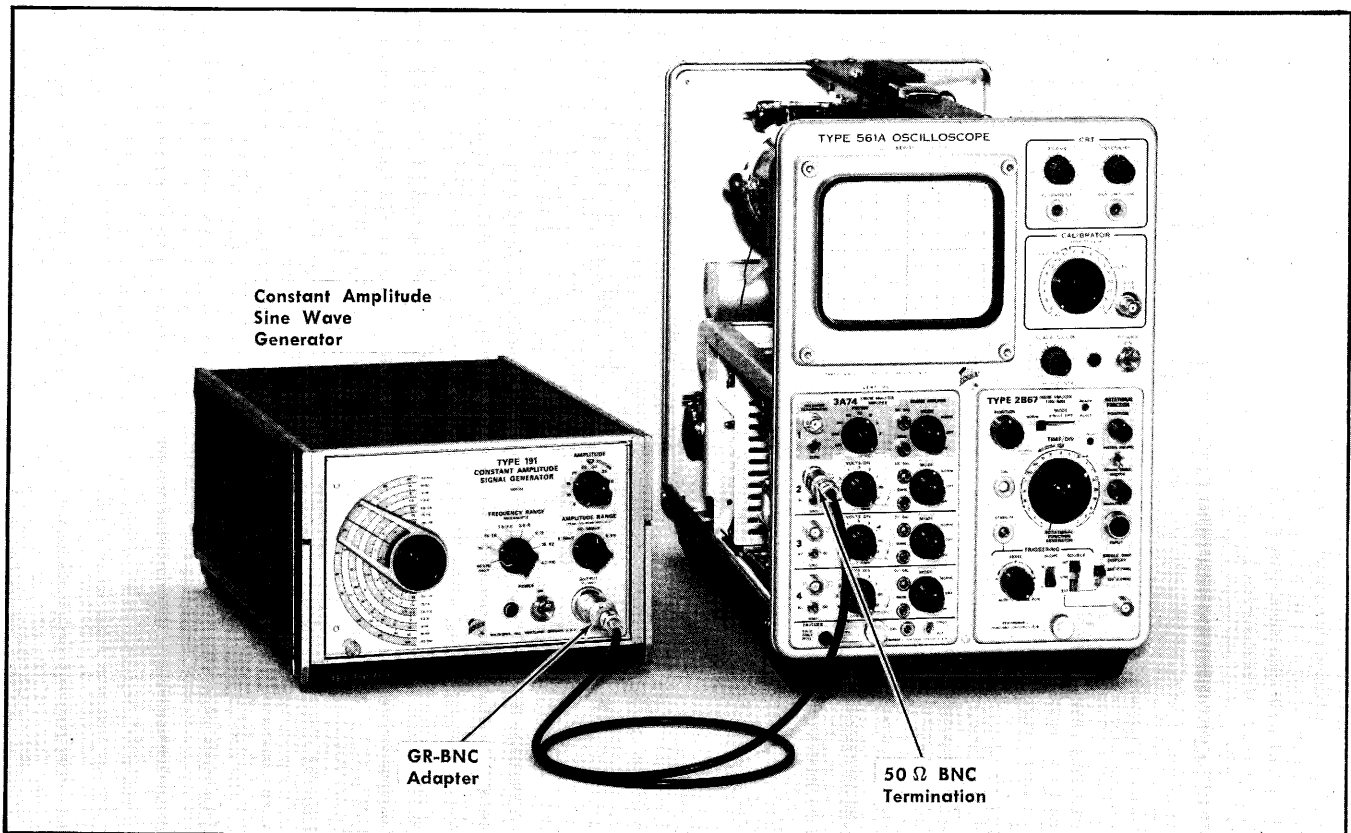

Fig. 5-20. Equipment arrangement for step 23.
a. The preliminary control setup applies. The equipment arrangement is shown in Fig. 5-20.